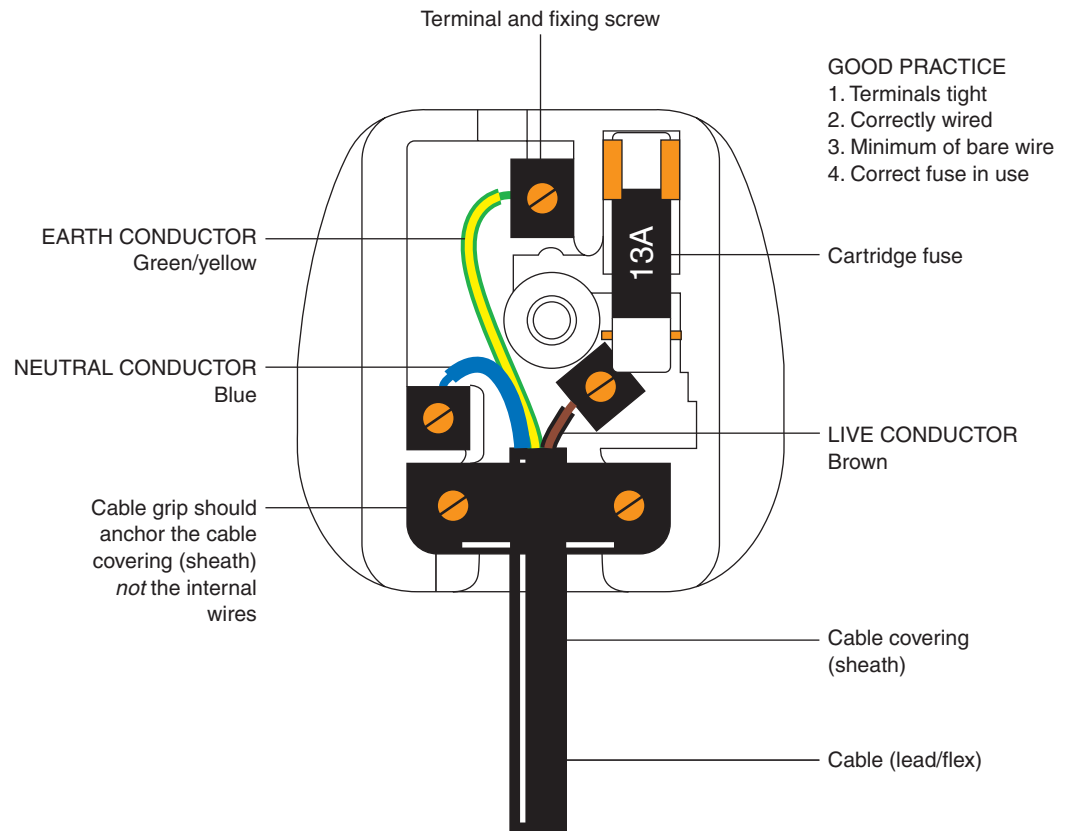

Figure 1.31 Correct connection of plug.
- the wires (conductors) are connected to the correct terminals of the plug top as shown in Fig. 1.31;